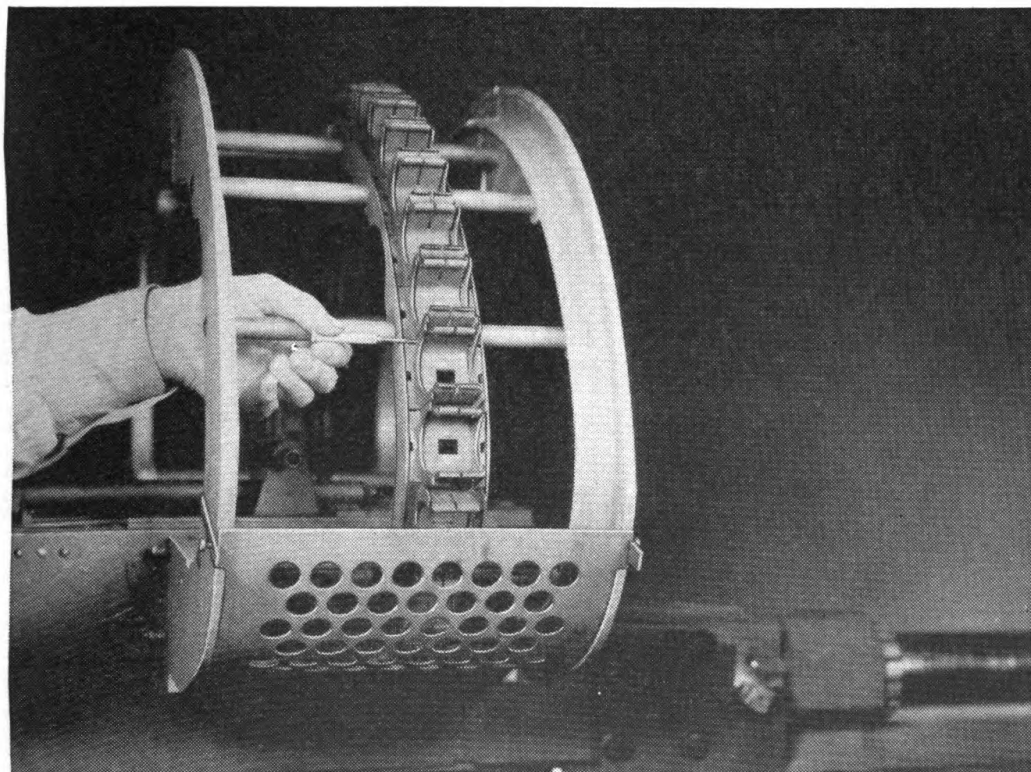
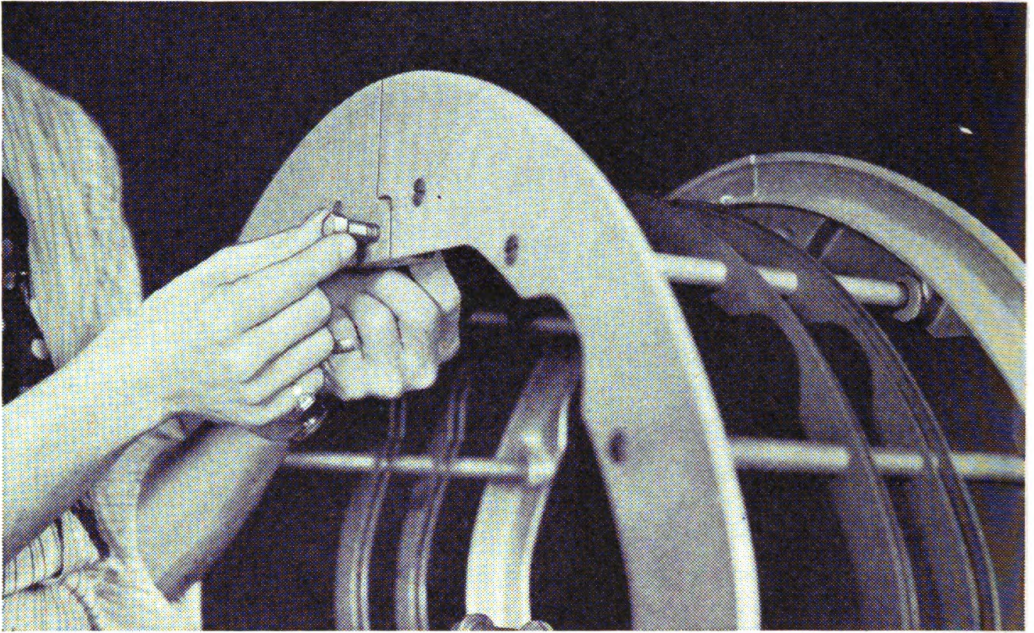

FIGURE 9.—Removing screw from endless belt.
FIGURE 10.—Removing bolt joining halves of 30-round magazine.
(2) Unscrew the screw joining the two links of the endless belt which are marked in red (fig. 9).
(3) Holding the cartridge feeder stop pawl released, guide the endless belt out the feed doorway.
(4) Separate the two halves of the magazine by removing the two bolts joining the right to the left half at the top (fig. 10).